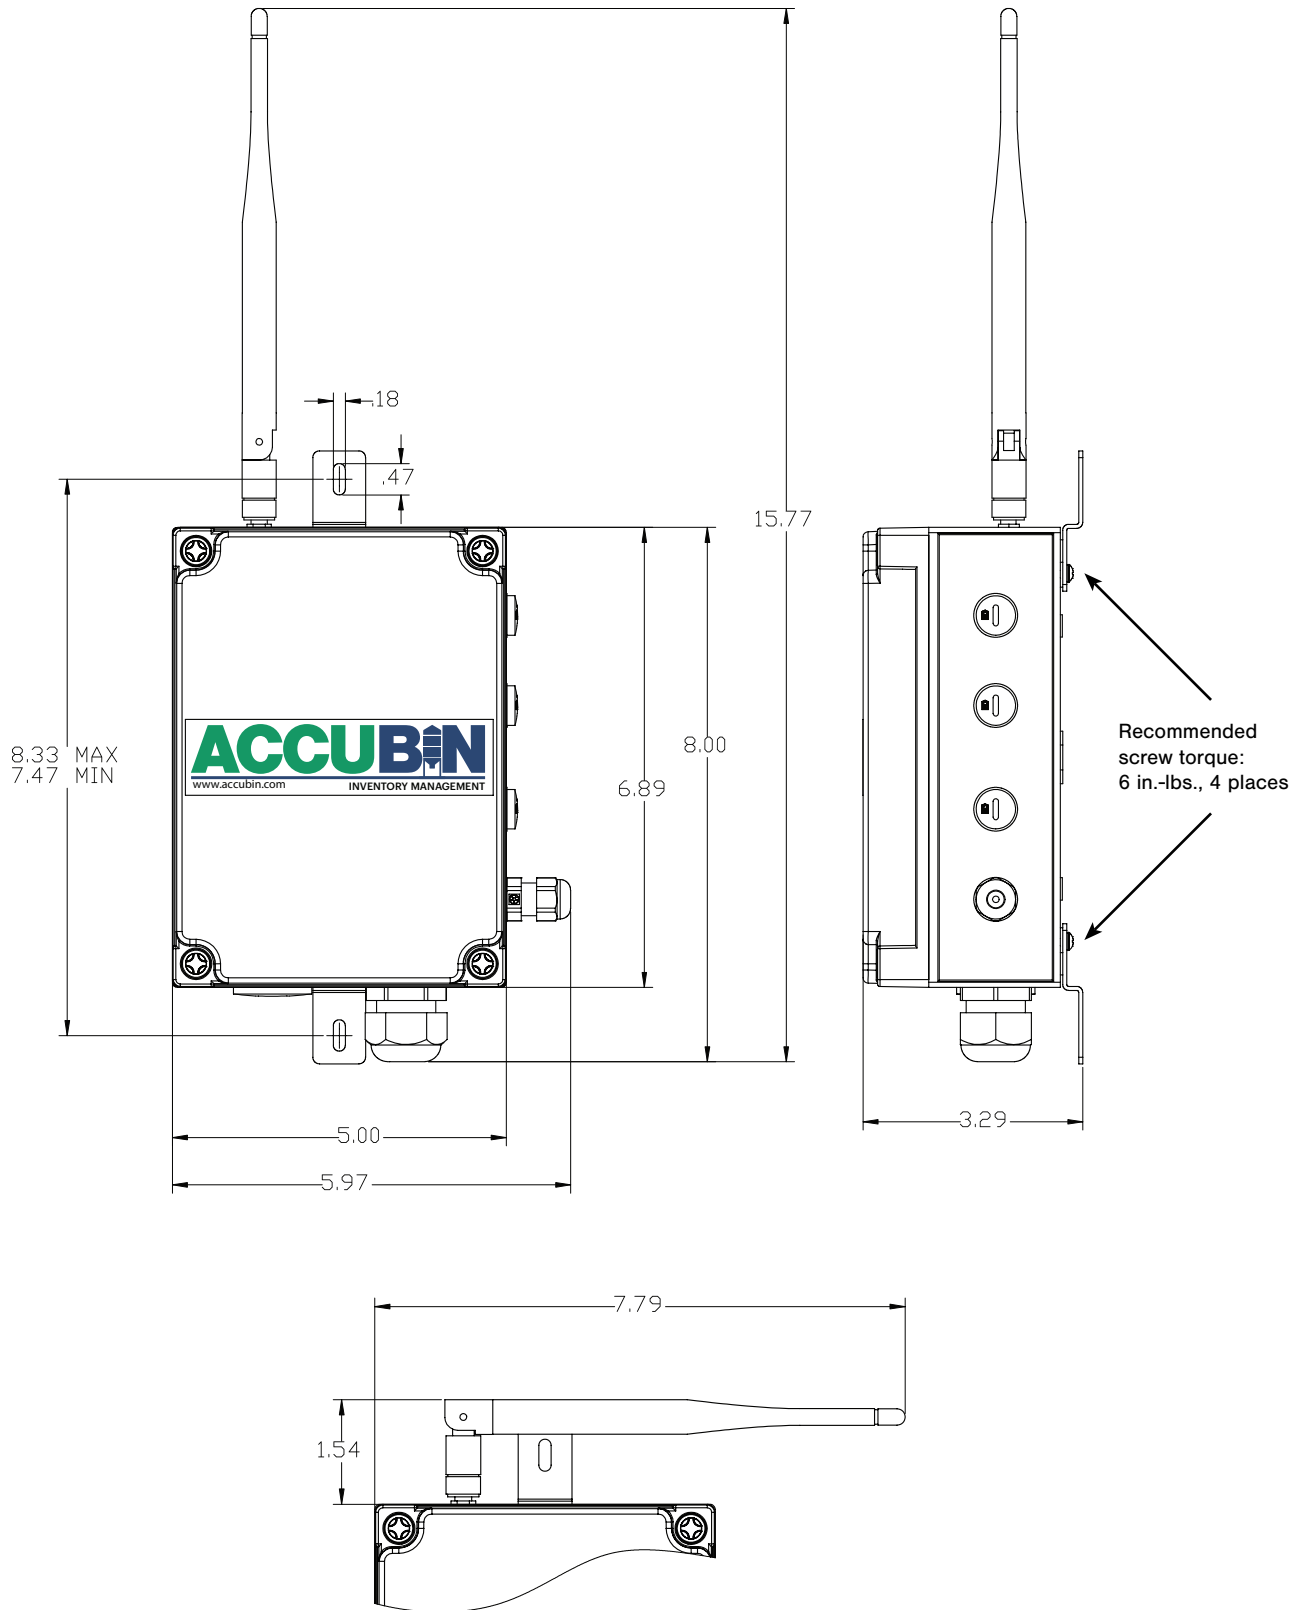

Figure 1
- Mount the Gateway as shown in Figure 1 using hardware provided
- Mount the Smart Node as shown in Figure 1 using hardware provided